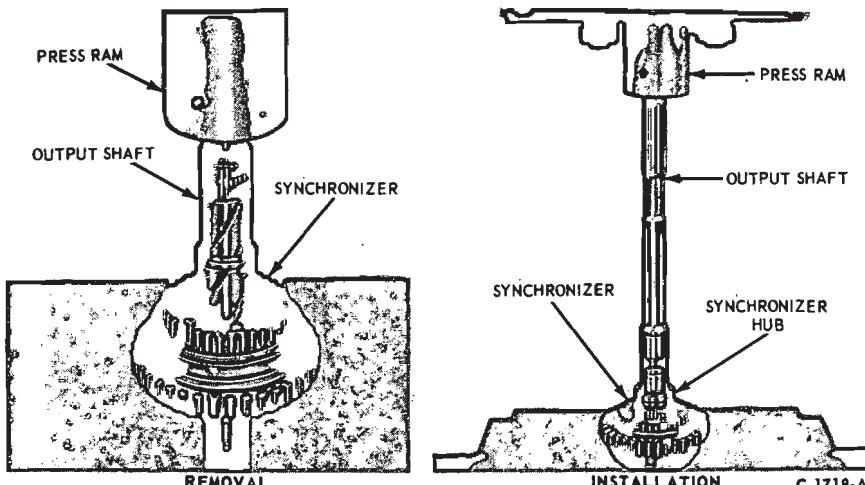

FIG. 23—Removing and Installing First and Reverse Synchronizer
5. The first and reverse synchronizer hub is a press fit on the output shaft. To eliminate the possibility of damaging the synchronizer assembly, install the synchronizer hub with the teeth end of the gear facing toward the rear of the shaft, using an arbor press as shown in Fig. 23. **Do not attempt to remove or install the hub by hammering or prying.**